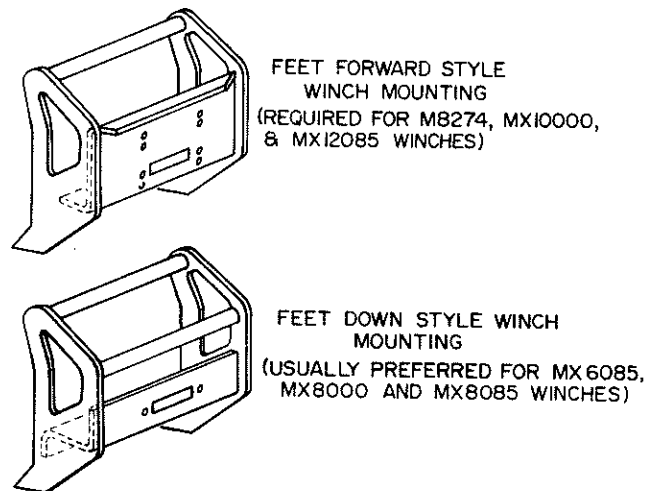

FIGURE 1
1. Take a few minutes to study **Figure 1** and decide which mounting style will be used. It depends somewhat on the winch model being mounted as well as personal preference. Be sure to make a decision before moving on to **Step 4**.